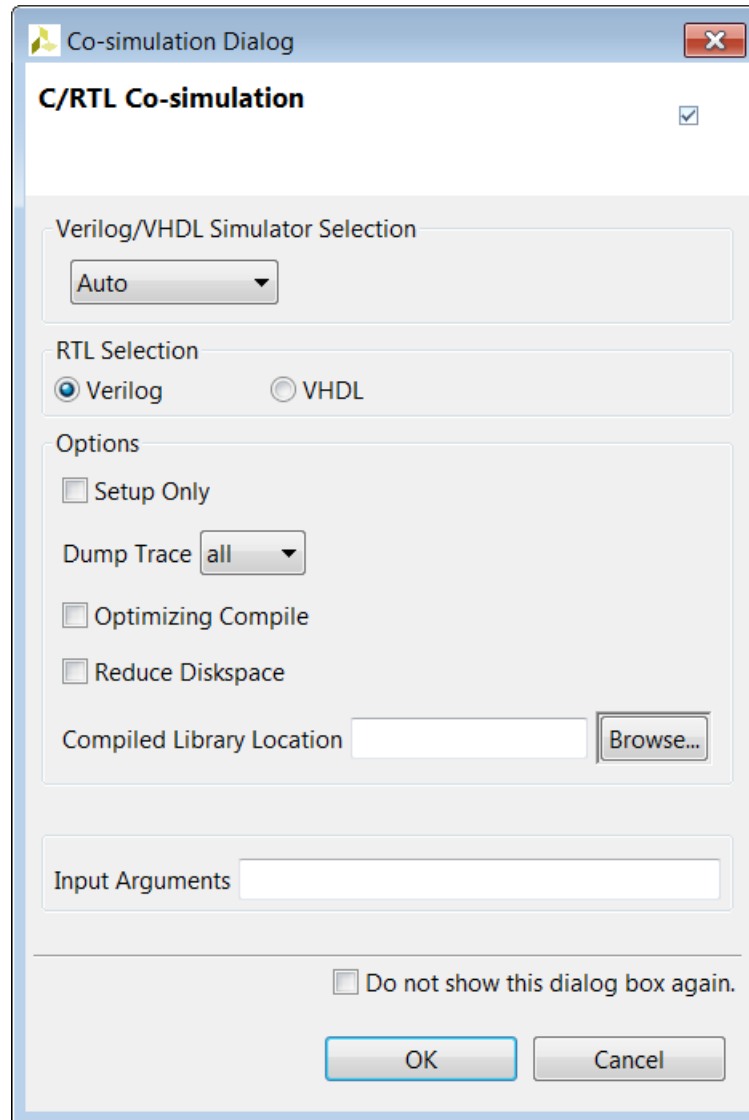

Figure 8-12: Cosimulation Dialog Box for Lab 2
- b. Activate the **Dump Trace** drop-down menu and select the **all** option, to have the options shown in Figure 8-12.